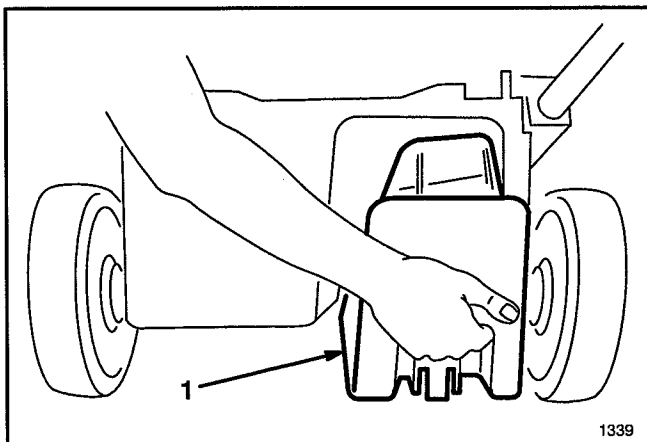

Figure 5
2. Open discharge door and insert plug into discharge tunnel opening (Fig. 5).